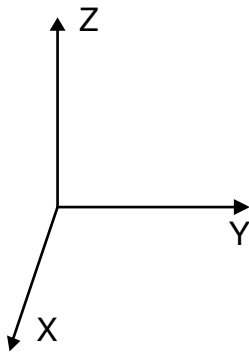

Figure 1
1. Position your system to start. Figure 1.